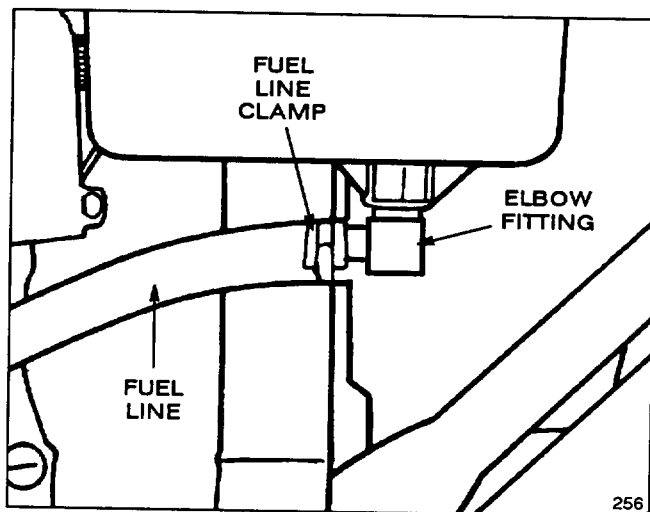

Figure 3
4. Slide end of fuel line onto elbow fitting. Secure in place with fuel line clamp (Fig. 3).